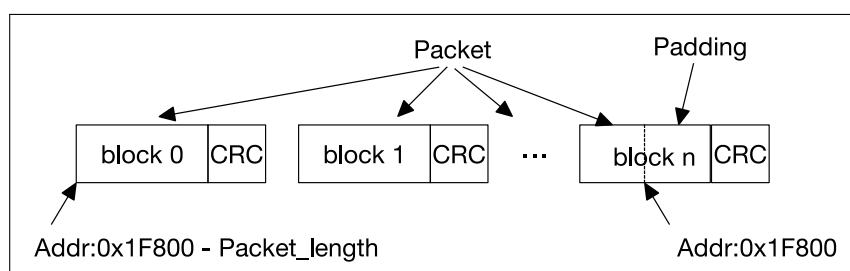

Figure 34.5-7. Data Flow of Sending Incremental-address Packets From Host to Slave
- For incremental-address packets, the slave determines valid data based on the address. Data with an address greater than or equal to 0x1F800 is considered invalid and is discarded. Therefore, the host should set the CMD53 start address field to 0x1F800 – Packet_length (in bytes). The data flow of incremental-address packets on the SDIO bus is shown in Figure 34.5-7.